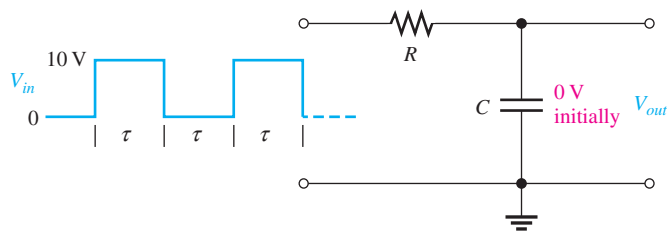
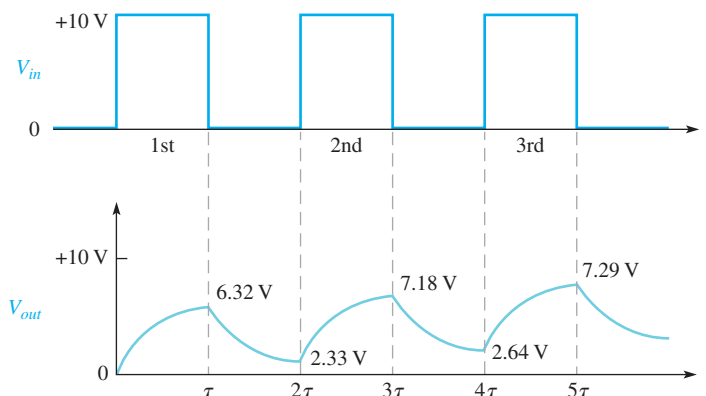

FIGURE 14
FIGURE 15
For illustration, let's use an  $RC$  integrator with a charging and discharging time constant equal to the pulse width of a 10 V square wave input, as in Figure 14. This choice will simplify the analysis and will demonstrate the basic action of the integrator under these conditions. At this point, you really do not care what the exact time constant value is because an  $RC$  circuit charges 63.2% during one time constant interval.
Let's assume that the capacitor in Figure 14 begins initially uncharged and examine the output voltage on a pulse-by-pulse basis. The results of this analysis are shown in Figure 15.
Input and output for the initially uncharged integrator in Figure 14.
**First pulse** During the first pulse, the capacitor charges. The output voltage reaches 6.32 V, which is 63.2% of 10 V, as shown in Figure 15.
**Second pulse** The capacitor voltage begins at 2.33 V and increases 63.2% of the way to 10 V. The total charging range is  $10 \text{ V} - 2.33 \text{ V} = 7.67 \text{ V}$ . The capacitor voltage will increase an additional 63.2% of 7.67 V, which is 4.85 V. Thus, at the end of the second pulse, the output voltage is  $2.33 \text{ V} + 4.85 \text{ V} = 7.18 \text{ V}$ , as indicated in Figure 15. Notice that the average is building up.